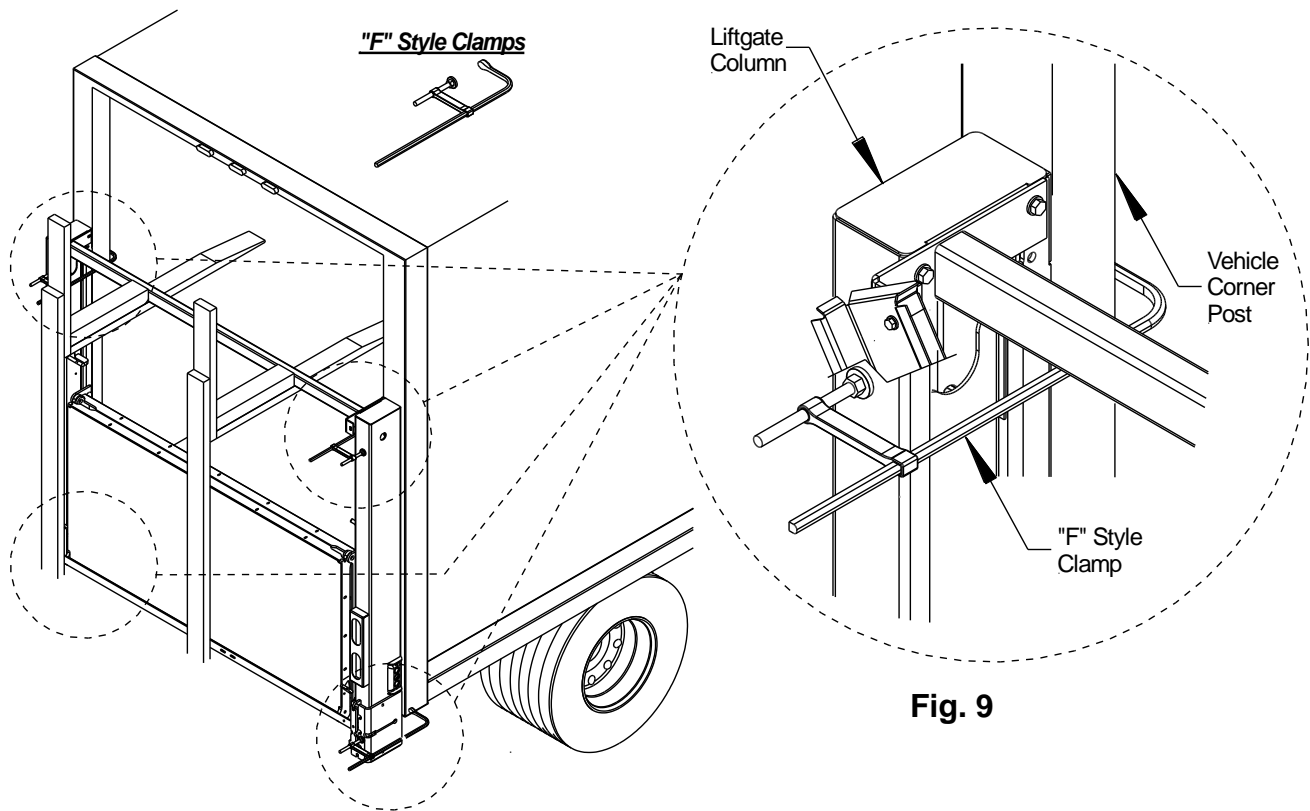

Fig. 9
7. Clamping Liftgate: After centering the gate, use four (4) "F" style clamps, two on top and two at bottom, to secure the liftgate flush against the vehicle, **Fig. 9**. Confirm all mounting dimensions are correct, double check the floor and traverse is flush, and the columns are flush to the vehicle.